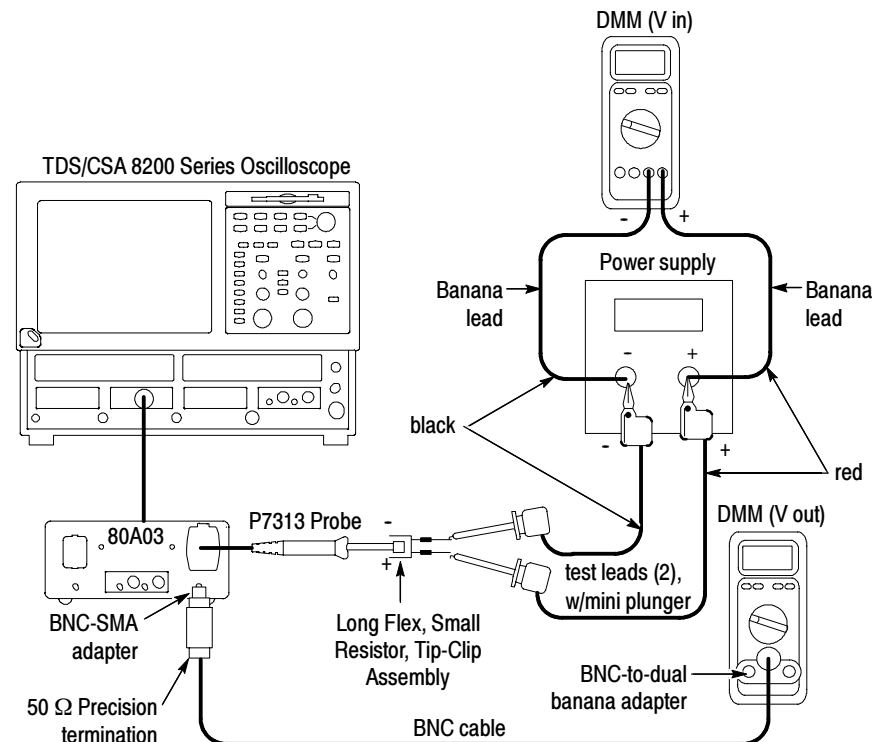

Figure 11: DC Gain Accuracy setup
2. Connect the probe with a Tip-Clip Assembly to the power supply as shown in Figure 11. Monitor the source voltage with one of the DMMs.